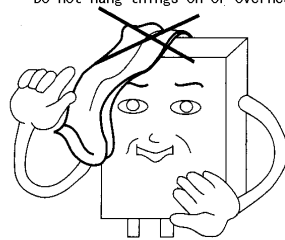

Fig 14
- Do not place inflammable materials, explosives or volatile materials near the heater. (Fig.14)